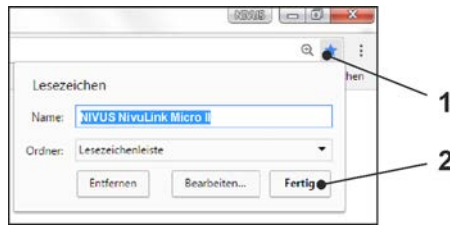

Fig. 32-4 Setting up favourite
9. To set up a favourite in the browser (for direct access), tap the star for "Favourites" (Fig. 32-4 Pos. 1) (Google Chrome is used as an example) and confirm with "Done"
(Fig. 32-4 Pos. 2).